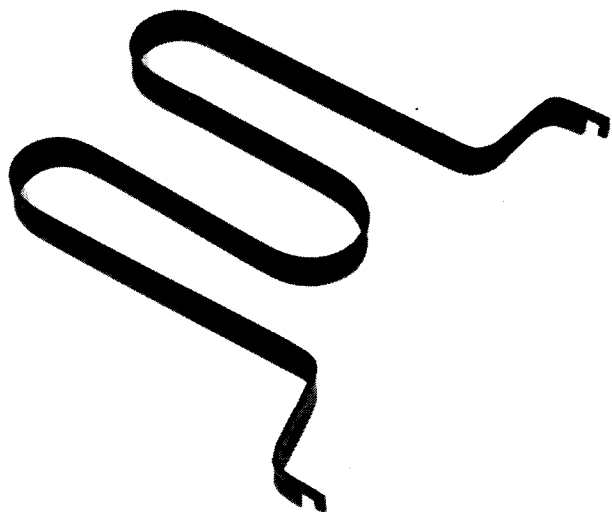

Figure 65—Air Conditioning Outlet Remover and Installer Tool J-24612
1. Using Remover and Installer Tool J-24612 (figure 65), compress grille release tabs.